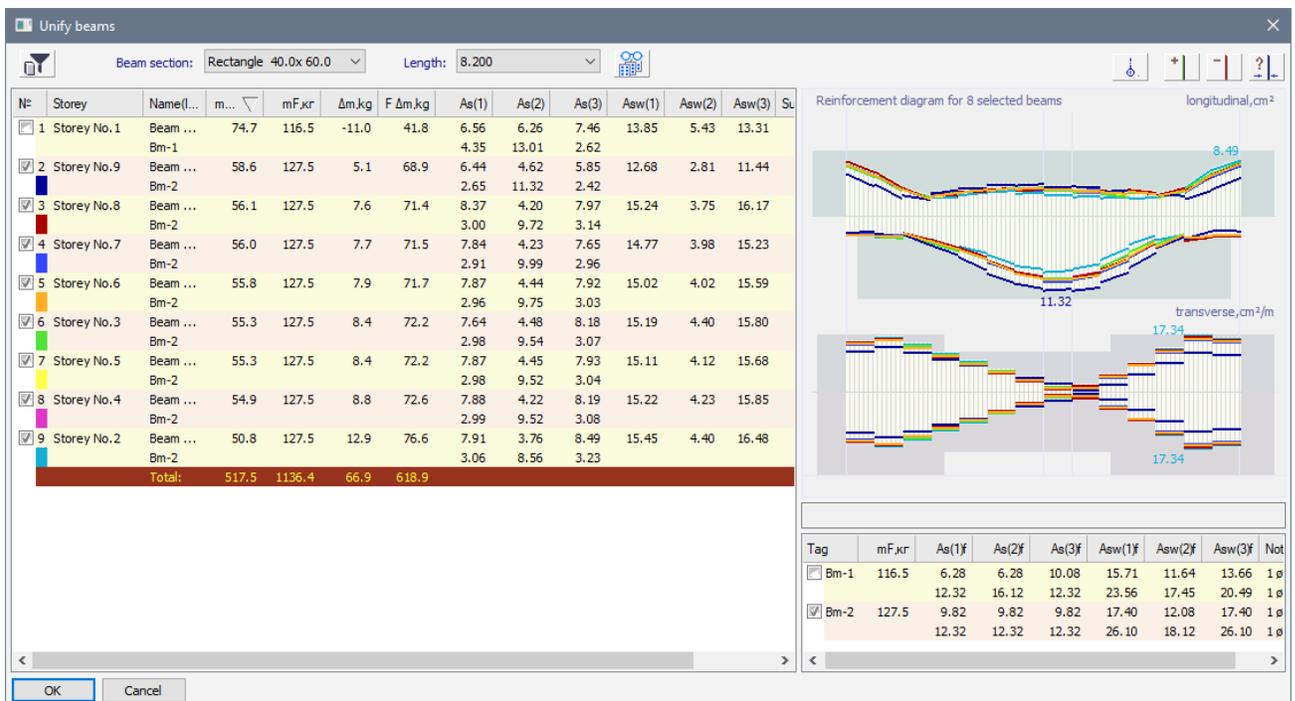

Figure 27.30. Diagrams for actual and theoretical reinforcement for the beam
- ➔ At the bottom of the right part of the dialog box (see Fig. 27.30) you will see tags Bm-1 and Bm-2. Unified beam Bm-2 satisfies by strength to all 8 beams included into this unification group. In the **Views** window, there will be views of reinforcement **Bm-1** and **Bm-2** in the **Assemblies** folder and several section views in the **Sections** folder.